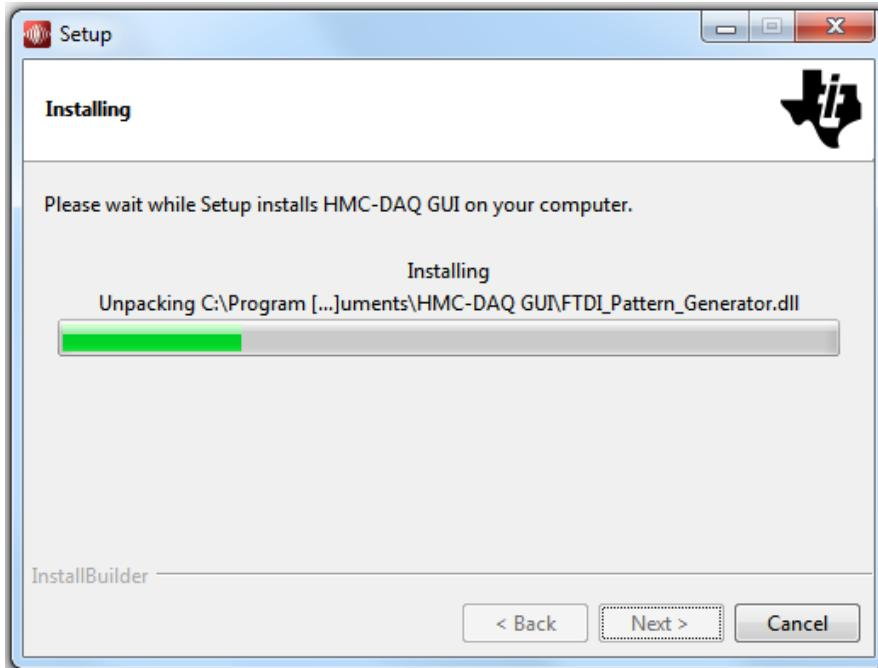

Figure 39. HMC-DAQ GUI Install (Installation Progress)
6. The window shown in Figure 39 appears showing that the installation is in progress.